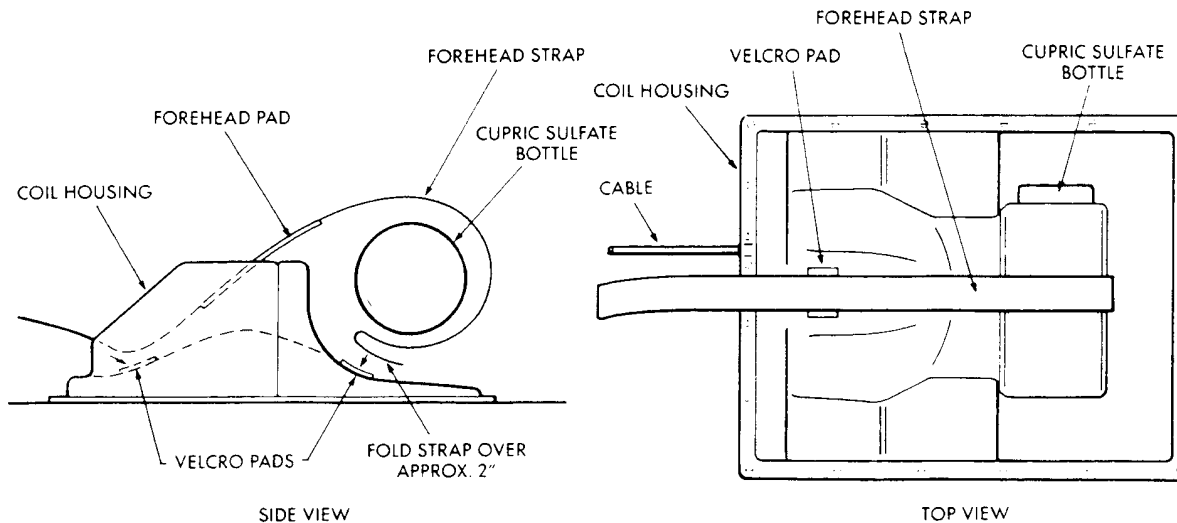

FIGURE 1—DECOUPLING PHANTOM POSITIONING
- 3.1 If the images obtained in 2.0 are acceptable, connect the surface coil BNC cable to quarter wave cable [P/N #46-251710G7] in RF Cable Kit [P/N #46-287402G1] and connect the free end to the head coil input BNC port. Set up the scanner with the following protocol and perform the scan using the decoupling test phantom [P/N #46-287399P1]. See Figure 1 for proper placement of decoupling phantom with respect to surface coil. Landmark along the transverse and longitudinal markers indicated on the coil.